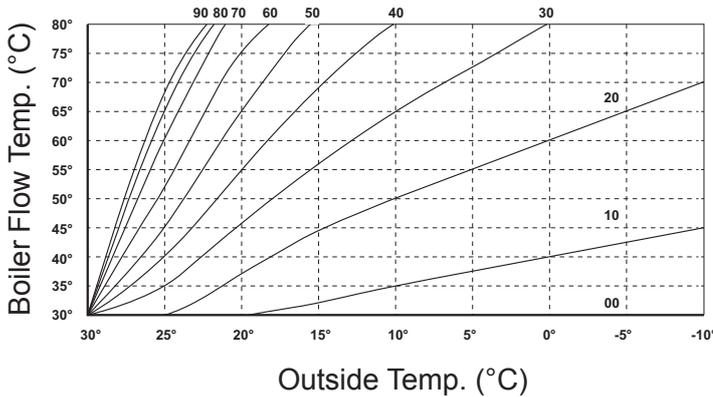

Fig. 24
10. Set the boiler as described in Section 5.0 (boiler group 'B') or section 11.0 (boiler group 'E') to correspond with the desired curve as shown on the graph (Fig. 24).
For example, if Curve '40' is selected (Fig. 24), at an outside temperature of 10°C the boiler flow temperature will be 80°C. Consider the type of dwelling and discuss with the user their requirements to determine the most appropriate curve.